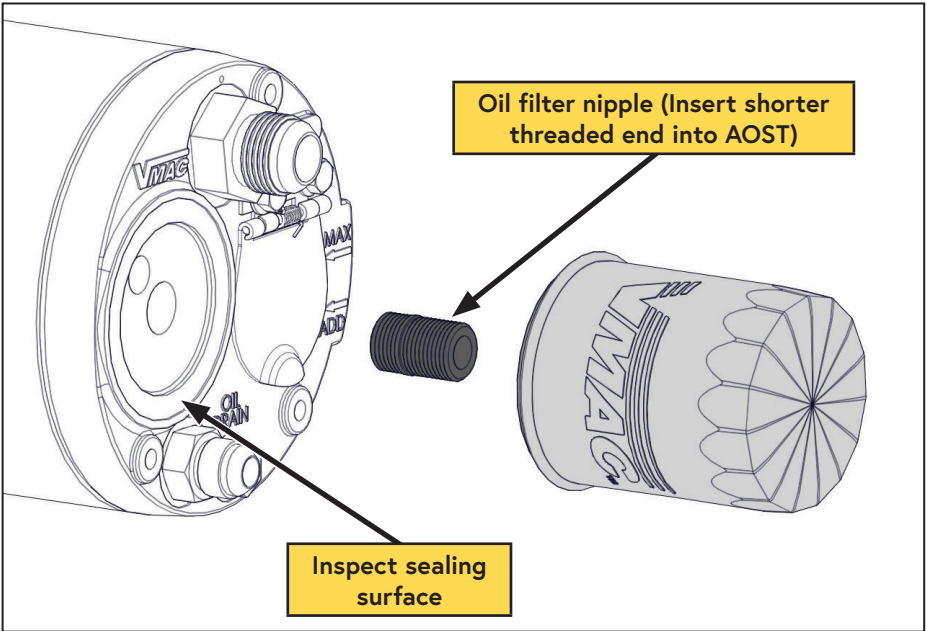

Figure 22 — Compressor oil filter
- ☐ *To reinstall the nipple, thoroughly clean the threads and apply Loctite 242 (blue) to the end with the short threads and replace it in the AOST (Figure 22).
- ☐ Clean the gasket sealing surface on the front of the AOST and inspect it for damage. The surface must be free of old gasket material and smooth to ensure a good seal (Figure 22).